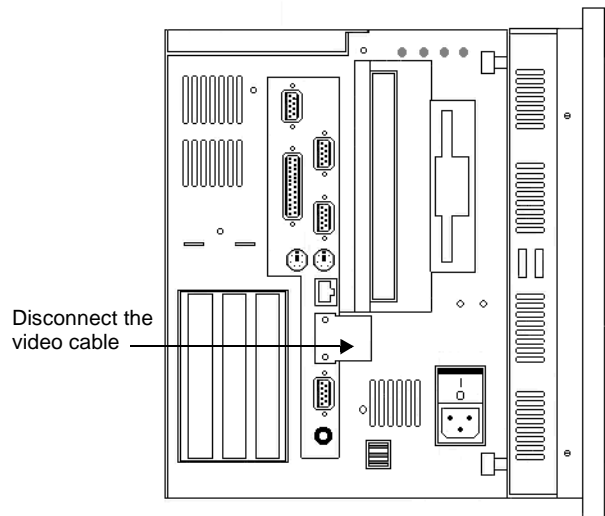

Figure 6: : Video Cable on the P9
1. If you have a P9, disconnect the video cable from the video port on the left side of the unit, as shown in Figure 6.